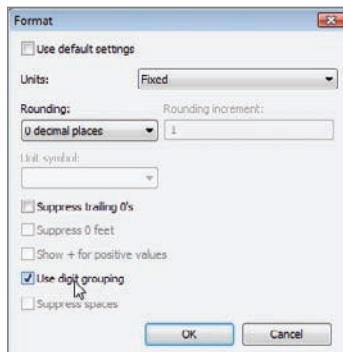

FIGURE 11.37 Overriding the units to allow this field to round
13. Uncheck Use Default Settings, as shown in Figure 11.37.
16. Click Use Digit Grouping (see Figure 11.37).